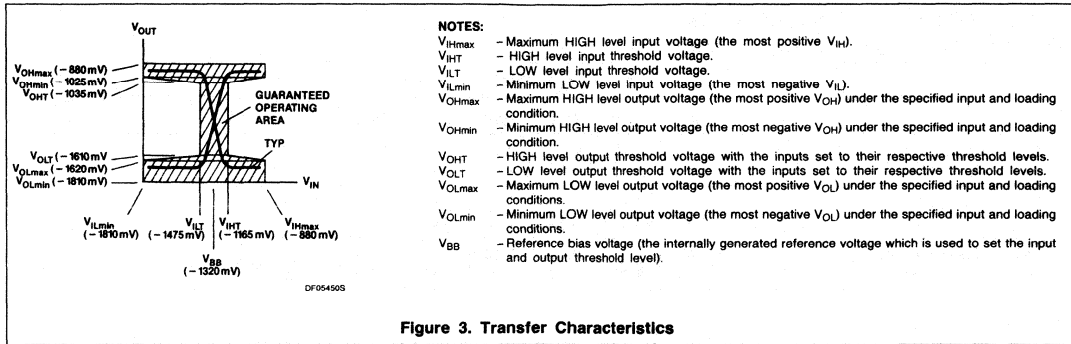

Figure 3. Transfer Characteristics
3. The specified limits shown in the DC Characteristics can be met only after thermal equilibrium has been established. Thermal equilibrium is established by applying power for at least 2 minutes while maintaining transverse air flow of 2.5 meters/s (500 linear feet/min) over the device either mounted in the test socket or on the printed circuit board. Test voltage values are given in the DC Operating Conditions and defined in Figure 3.